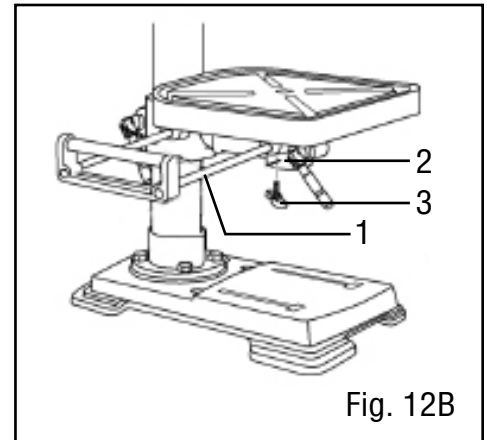

Fig. 12B
INSTALL THE TABLE EXTENSION (FIG. 12B)
1. Insert the two rods (Fig. 12B - 1) of the table extension into the two channels (Fig. 12B - 2) at the side of the table.
2. Place a wing knob (Fig. 12B - 3) in the opening on the bottom of each channel and tighten to secure the extension to the table.